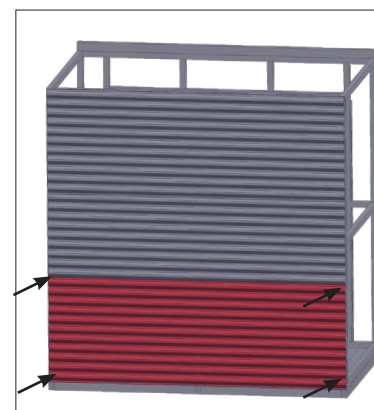

Fig.4
- Repeat at the top at the other end. Once again square the framing up with the cladding and screw the bottom of the sheet using the same process as the top sheet (Fig. 2). Repeat with the bottom wall sheet (Fig.4) Bottom wall sheet should finish approx 30mm below bottom of base plate.